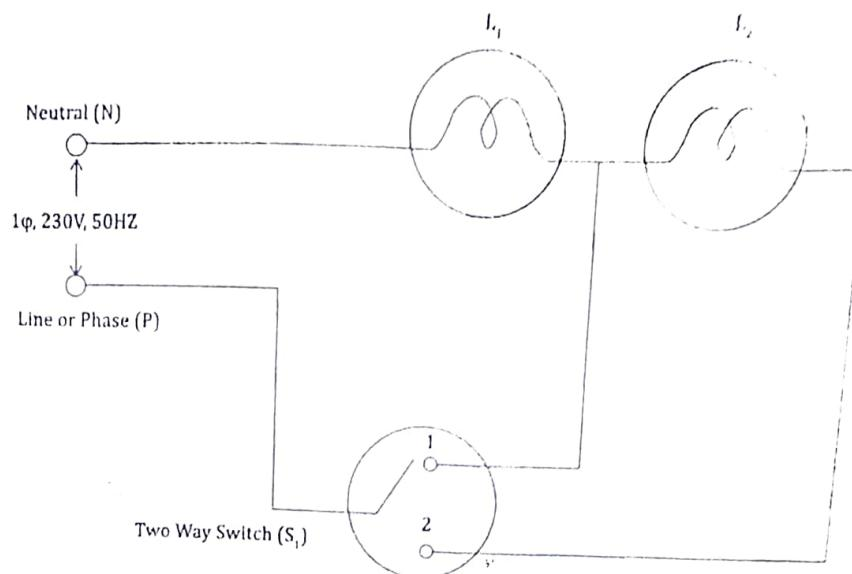

Fig.2.16 Two lamps controlled by one Two way switch.
3. Two Lamps Controlled by one Two way Switch : The Two lamps controlled by one two way switch as shown in Fig.2.16. The Main elements are 2-lamps (L_1, L_2) Two way switch(S) and Supply (Phase (P) and Neutral (N)).